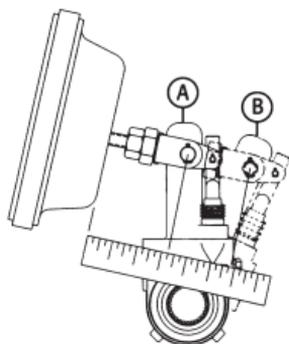

Figure 1 – Measuring Maximum Stroke
3. Using a ruler, measure the distance from the face of the air chamber to the center of the large pin in the clevis (A) (See fig. 1). Make an 85 psi brake application and allow the chamber push rod to travel its maximum stroke. Measure to the center of the large pin (B). The difference between (A) and (B) is the push rod stroke. Check the following chart for proper maximum stroke after adjustment of the brakes.
- After allowing the brake drum to cool to room temperature, check for correct chamber stroke following the procedure (See fig. 1). Due to different operating conditions, chamber stroke tests may be necessary at earlier intervals. See charts on previous panel for the recommended stroke measurements.
1. The Gunite automatic slack adjuster should not require manual readjustment. If the maximum chamber stroke is within the range for the size chamber used (See fig. 1), the slack adjuster should not be manually readjusted.